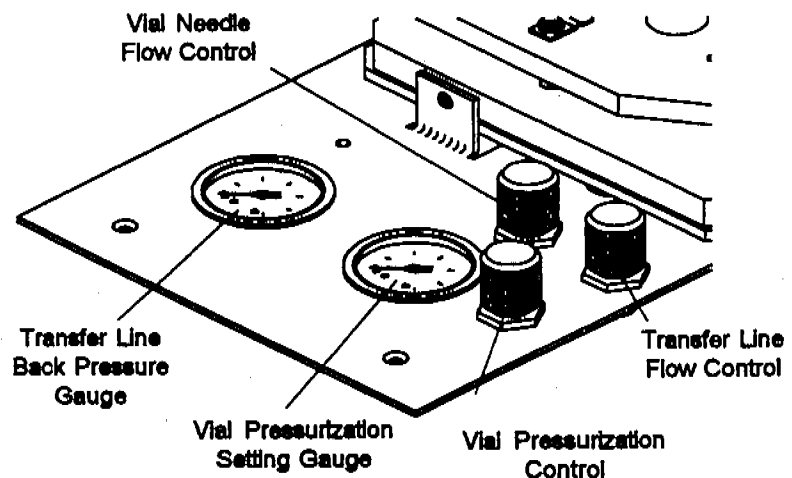

Figure 5-2 Pneumatic Controls and Gauges
- Sample-to-sample static vial pressure variances may lead to different loop flush values. In these situations you may be able to achieve more precision in your analysis by adding 2 - 10 psi vial pressure above the static vial pressure. This ensures a uniform flush of the sample loop during the Loop Fill step. To adjust vial pressurization, use the Vial Pressurization Control knob on the pneumatics control panel on top of the 7000 (see Figure 5-2).